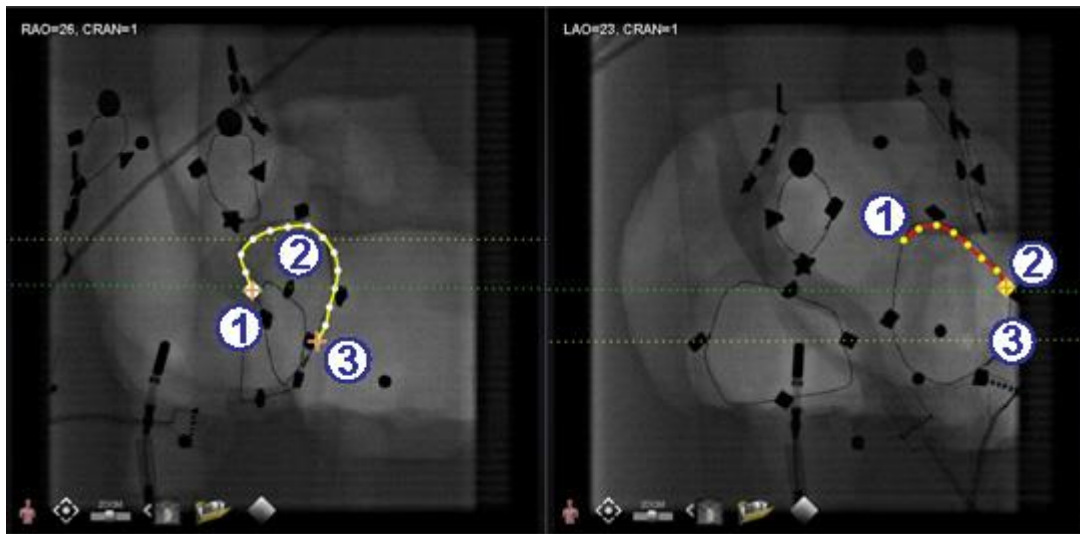

Figure 166. On complementary image, last point drawn is distal point
As the user marks a vessel on a complementary fluoro (as on the LAO fluoro in **Figure 166**), the last point drawn is the distal point. The yellow dotted line in the original fluoro (RAO below) indicates the distal point of the complementary fluoro.
Distal point in progress guide (Figure 166)
- ① Proximal anchor point
- ② Distal point of the active drawing (LAO in **Figure 166**)
- ③ Distal anchor point of the original drawing (RAO in **Figure 166**)